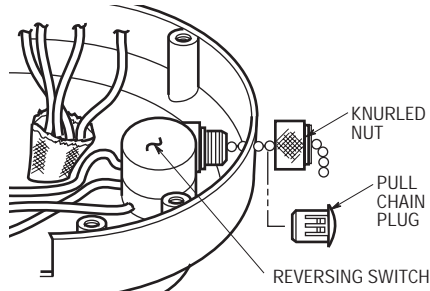

Figure 4
5. For Ceiling Fan Models F2100, F2200 and CF2300 Only. Remove the knurled nut securing the reversing switch to the switch housing (Figure 4).